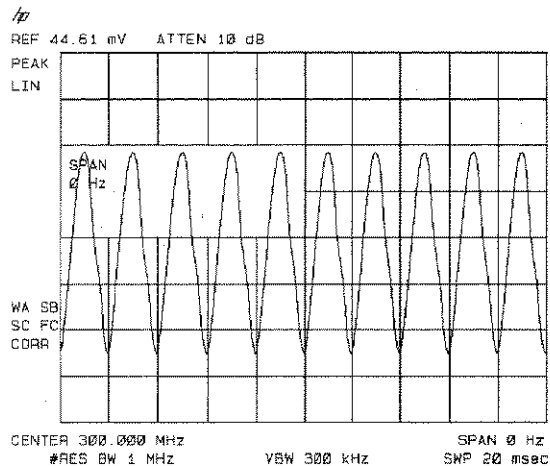

Figure 3-27. Measuring Modulation In Zero Span
5. To select zero span, either press **(SPAN)**, **0 (Hz)** or press **ZERO SPAN**. See Figure 3-27. If the modulation is a steady tone (for example, from a signal generator), use video trigger to trigger on the waveform and stabilize the display. Adjust the sweep time to change the horizontal scale.